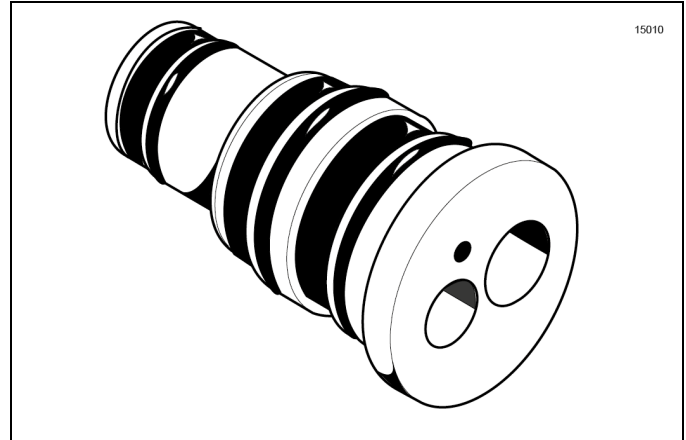

Figure 6-18
3. Assemble the liquid valve body. Slide the three check rings and three O-rings into the grooves on the liquid valve body. **Do not** lubricate the check rings or O-rings. (See Figure 6-18.)